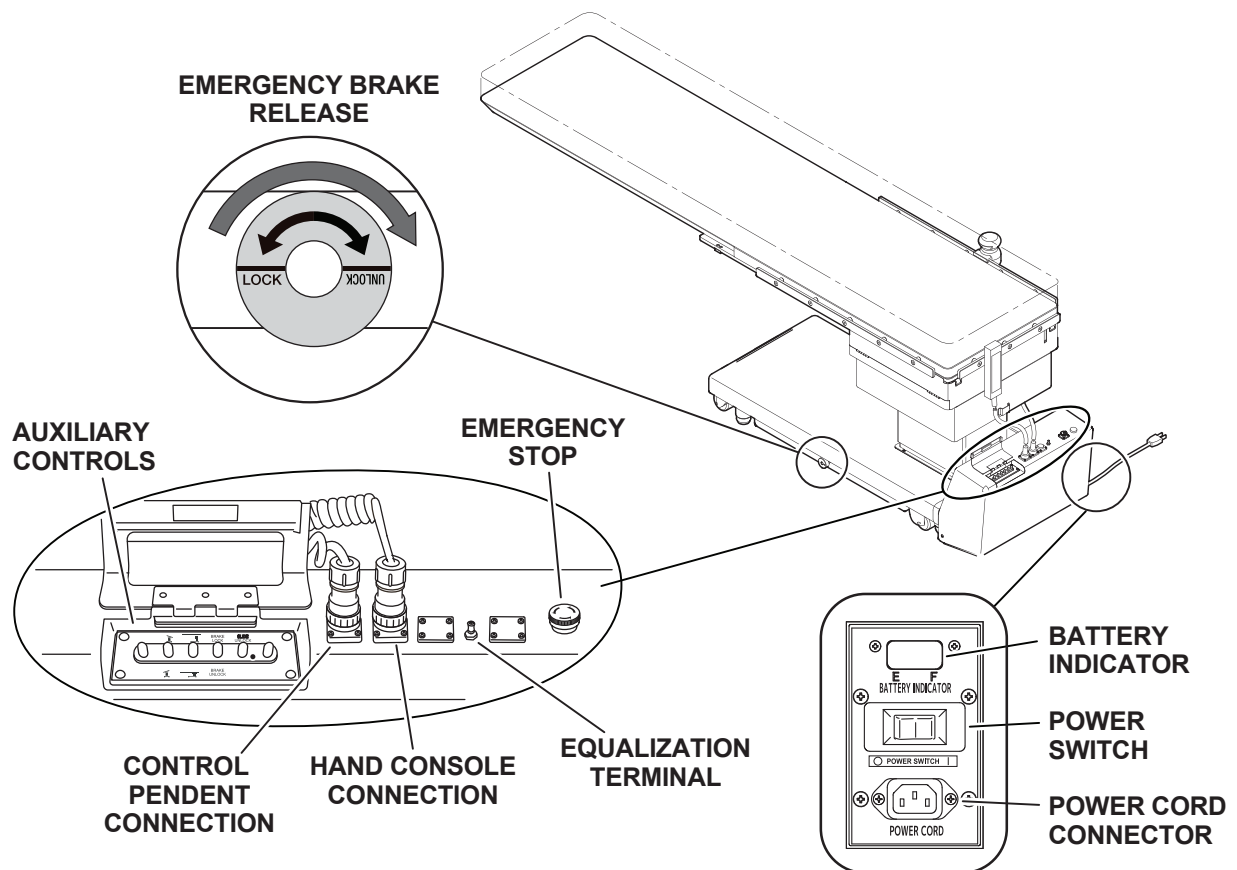

Figure 7. Back Pack Controls and Emergency Release
Push the Emergency Stop switch (Figure 7). All power will stop and an alarm will sound. Turn the button clockwise to deactivate the Emergency Stop.
- Make sure the pendant is securely plugged into the table (Figure 7).
- Test to see if the table is receiving a signal from the pendant. Two green bars should appear in the battery indicator when pushing the function button on AC power (Figure 7).
- Use auxiliary controls (Figure 7) at the base of the table.
Make sure the hand console is securely plugged into the table (Figure 7).
Turn the emergency brake release (Figure 7) at the base of the table clockwise so the word "Unlock" is facing upward on the knob.
Plug in the table and turn on the power switch (Figure 7).